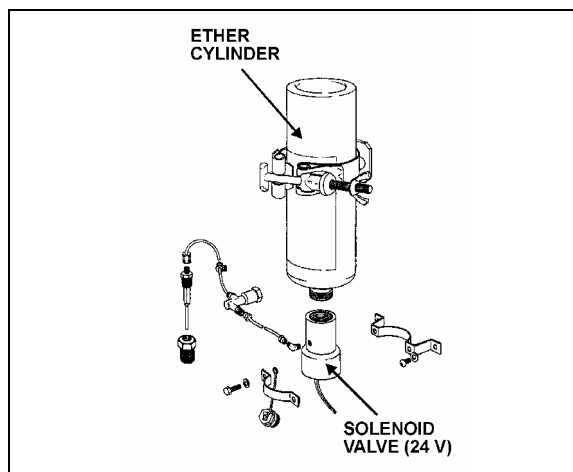

FIGURE 20: COLD STARTING AID
- Check cylinder for hand tightness and fuel supply (Fig. 20). Empty cylinder weight is approximately 17 oz (480 g); full cylinder weight is approximately 35 oz (990 g). If cylinder is empty, replace it. Before replacing cylinder, install new valve gasket in solenoid valve.